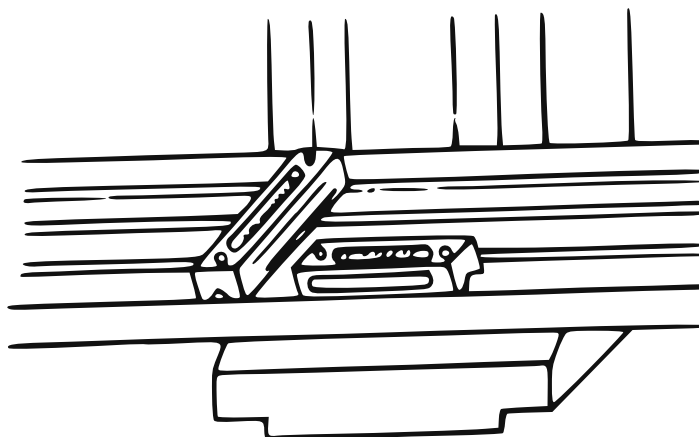

Figure 3-6: Precision levels on the worktable
- 2 Place two precision levels on the table, one along each axis (Figure 3-6). If you have only one level, check each direction in turn, repeatedly.